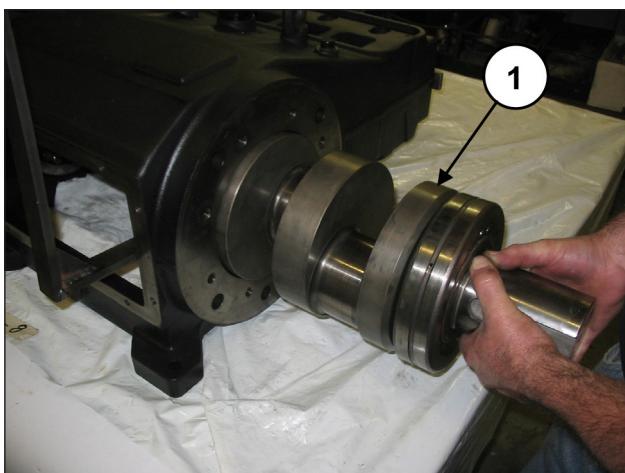
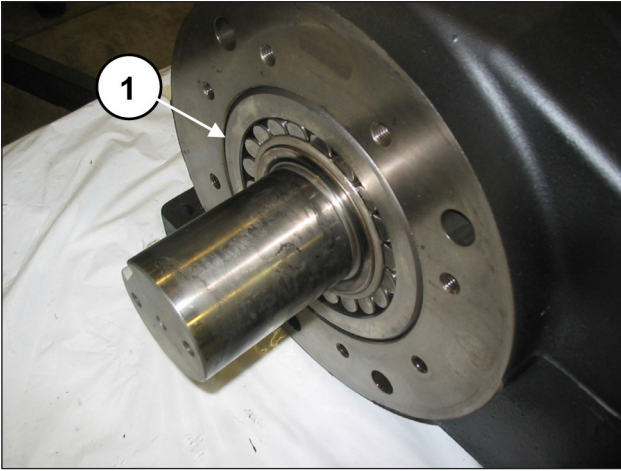

Fig. 29
Fig. 43
Extract the shaft and bearing (pos. ①, Fig. 29).
Insert the shaft (pos. ①, Fig. 29) until the pre-assembled bearing is flush with the edge of the casing (pos. ①, Fig. 43).